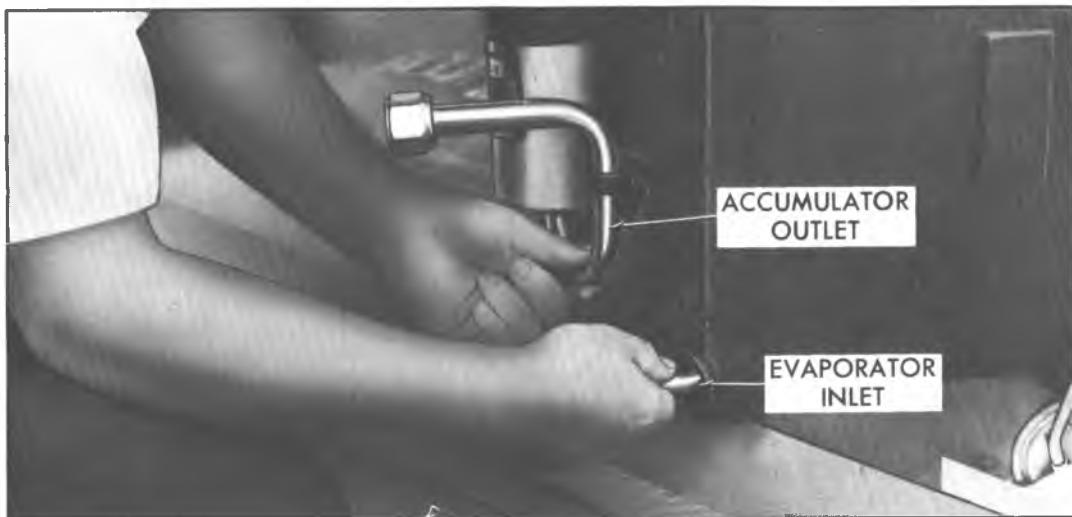

Fig. 52--Checking Evaporator Inlet and Accumulator
7. Feel temperature of evaporator inlet and accumulator outlet pipes with compressor engaged (fig. 52).